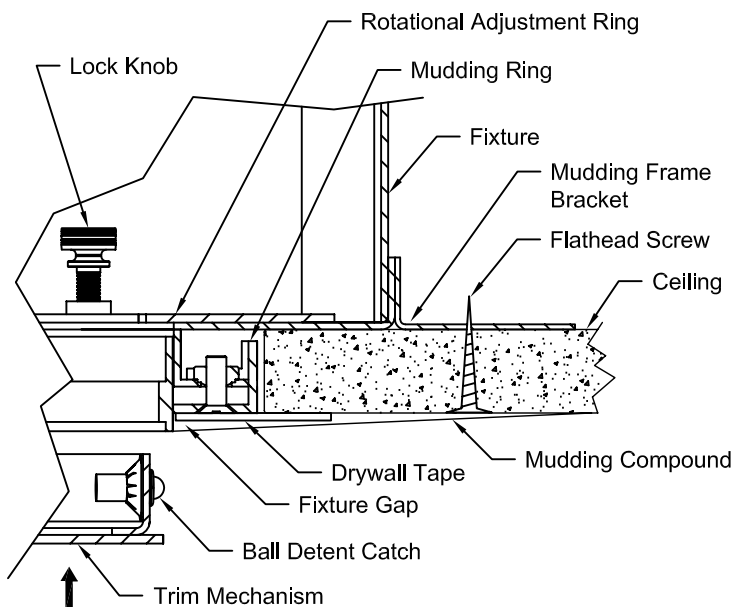

Figure 3
9. Install Ceiling drywall up to Mudding Ring on Fixture so that the two (2) Mudding Frame Brackets contact inside of Ceiling. See Fig. 3.
10. Retain Fixture to Ceiling with one (1) Flathead Screw through each of two (2) Mudding Frame Brackets. See Fig. 3.
11. Apply Drywall Tape and Mudding Compound to Mudding Ring overlapping Mudding Ring, Flathead Screws, Fixture Gap and surrounding area. Feather out Mudding Compound from Mudding Ring opening to surrounding ceiling area to produce a smooth, flat finish. See Fig. 3.
2. Install Trim Mechanism into Fixture by pressing firmly to seat Ball Detent Catches. See Fig. 3.